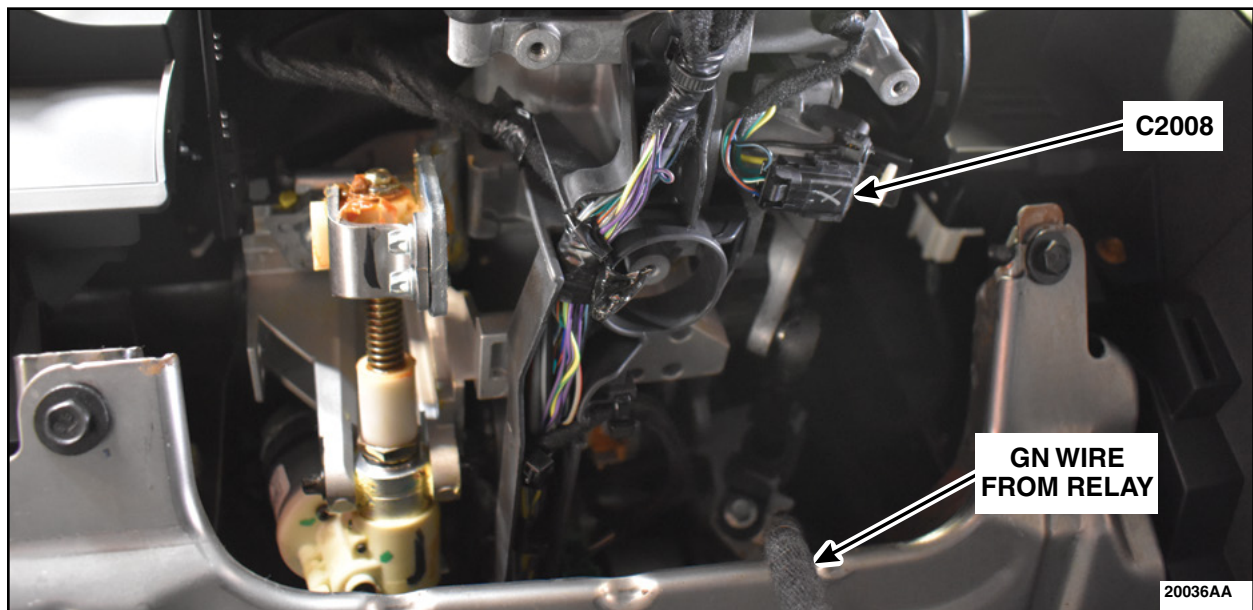

FIGURE 29
47. Disconnect C2008 from the underside of the steering column. See Figure 29.